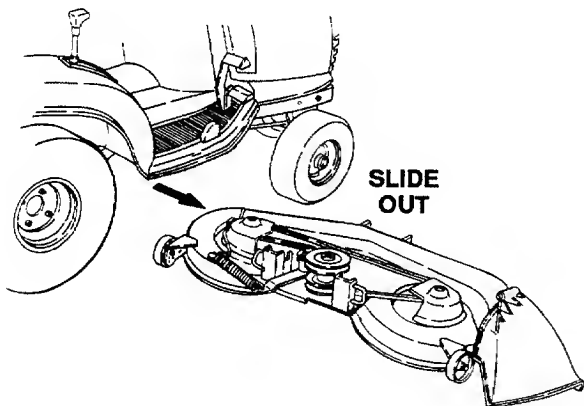

Figure 44
13. With the tractor implement lift handle raised to its highest setting, slide the deck to the right and out from under the tractor. (Refer to Figure 44.)